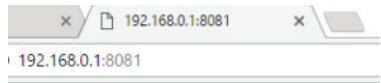

Figure 17: xPicoWiFi Web Address
5. Once connected, open a browser window and type “192.168.0.1:8081” in the address bar. Press the Enter key. See Figure 17.